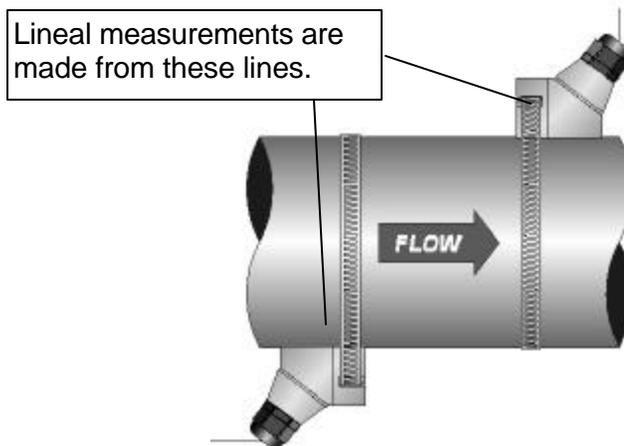

Figure 2.9 Z-Mode Transducer Mounting
2. Install the first transducer on the pipe, with the alignment groove placed over one of the marks created in the previous section. The stainless steel clamping band will be positioned within the groove on the front of the transducer. See **Figure 2.9**.
4. Mount the transducer in the same manner as the first, but at the second mark on the pipe. Slide the transducer clamp over the transducer and secure with the stainless strap. Refer to **Figure 2.9** for proper orientation.